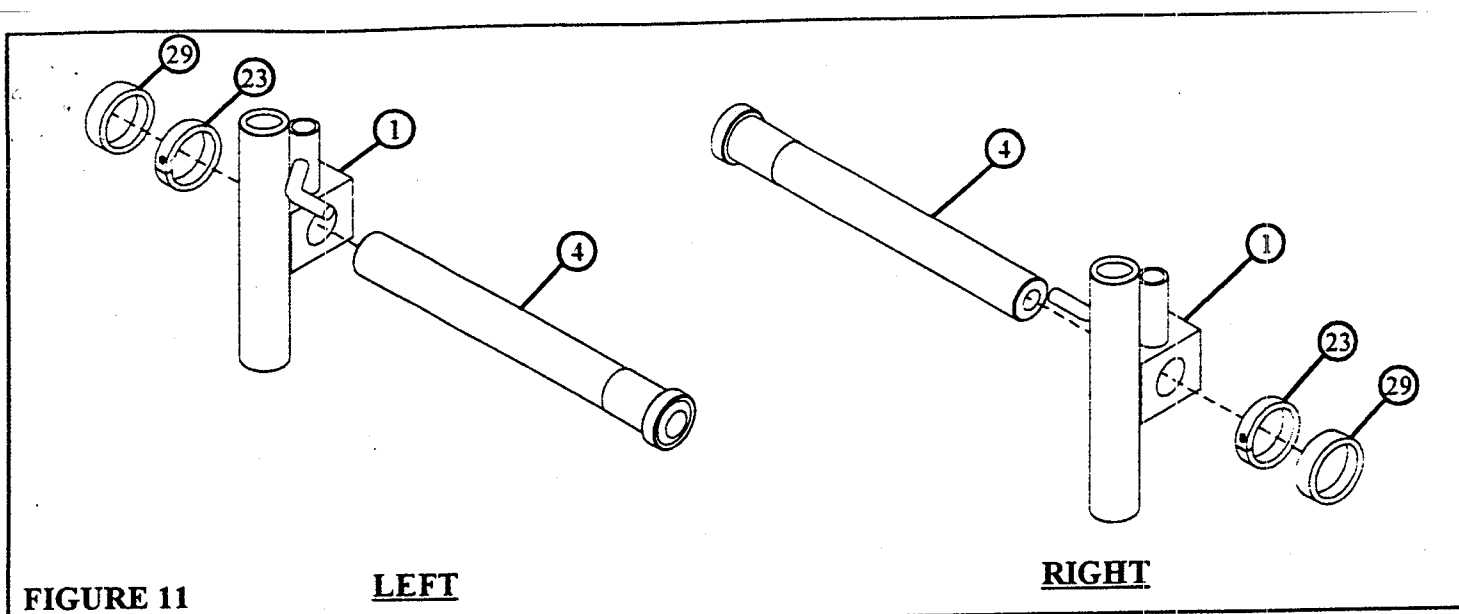

FIGURE 11
- Slide one **BEARING HOUSING (1)**, one **2" SHAFT COLLAR (23)**, and one **2-1/2" OD RUBBER BUMPER (29)** over each **SLEEVE ASSEMBLY (4)** as shown in FIGURE 11.
- Using a 1/4" Allen wrench, **SECURELY** tighten each set screw on the **2" SHAFT COLLARS (23)**. See FIGURE 11.